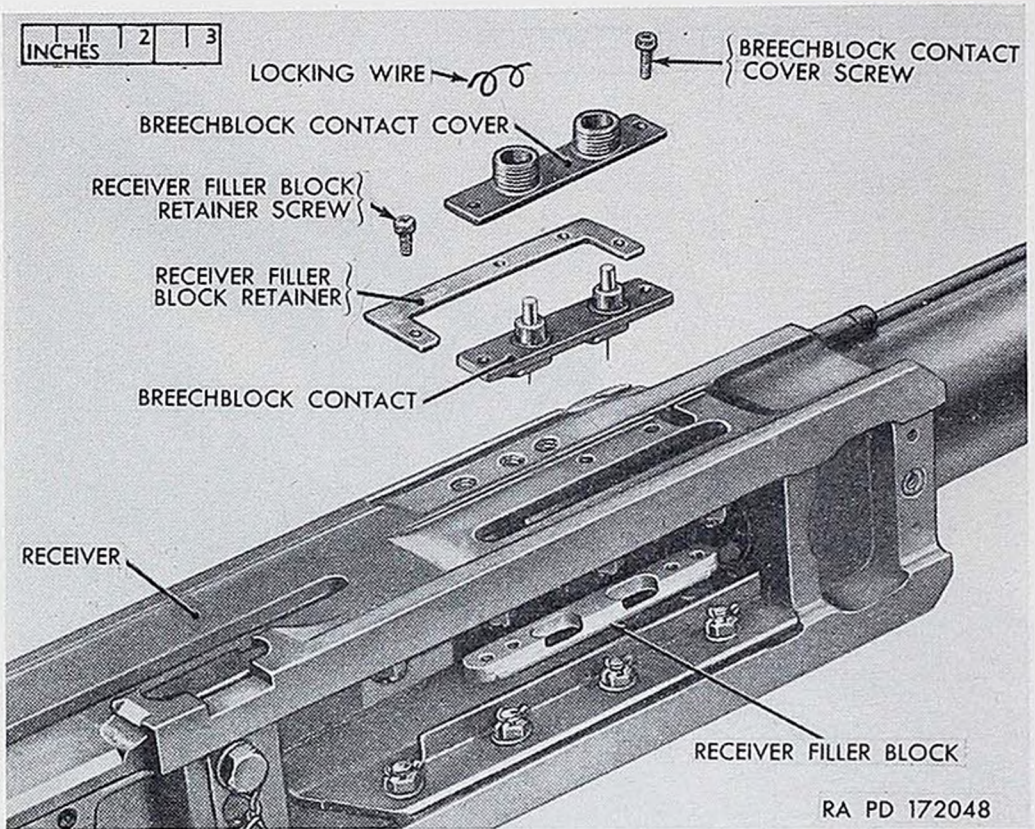

Figure 98. Disassembly of breechblock contact and cover—gun M24.
receiver filler block from inside of receiver (fig. 98), if the breechblock assembly is not installed in receiver; if the breechblock is installed in receiver, remove guide plunger and driving spring or springs (par. 66a), unlock breechblock and move it to the rear (par. 70c), and remove receiver filler block from inside of receiver (fig. 98).
- (3) Mount the receiver filler block retainer on receiver and fasten it to receiver and receiver filler block with the four short receiver filler block retainer screws (fig. 98).
- (4) Assemble breechblock contact cover and breechblock contact to receiver filler block from outside receiver so that the shorter of the two contact wires is toward the rear of the gun
and fasten it in place with the two long breechblock contact cover screws (fig. 98).